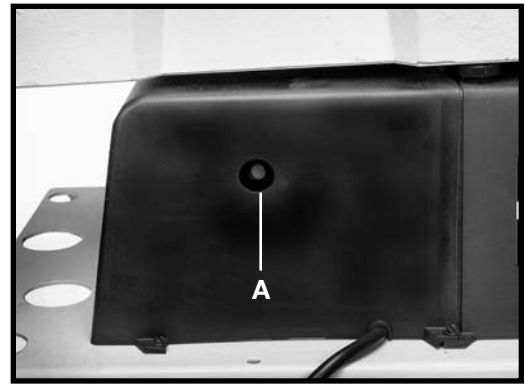

Fig. 16
The motor supplied with your sander is equipped with a reset overload relay button (A) Fig. 16. If the motor shuts off or fails to start because of overloading (sanding too heavy, using a worn sanding belt or disc, using the sander beyond its capacity), or low voltage, turn the switch (A) Fig. 14 to the "OFF" position. Let the motor cool three to five minutes and push the reset button (A) Fig. 16. The motor will then start.